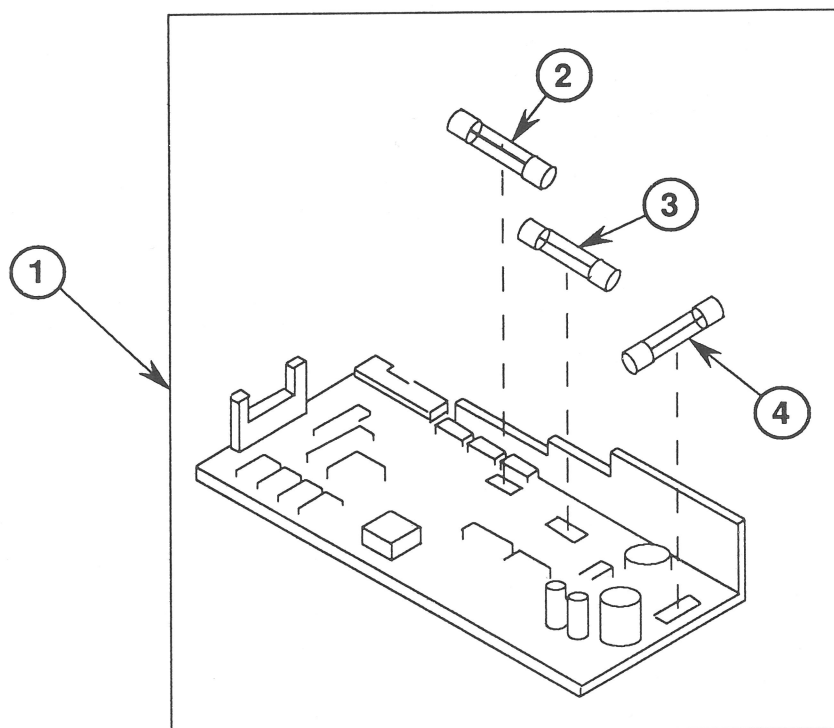

FIGURE 10
□ MAIN BOARD FUSES (Figure 10)